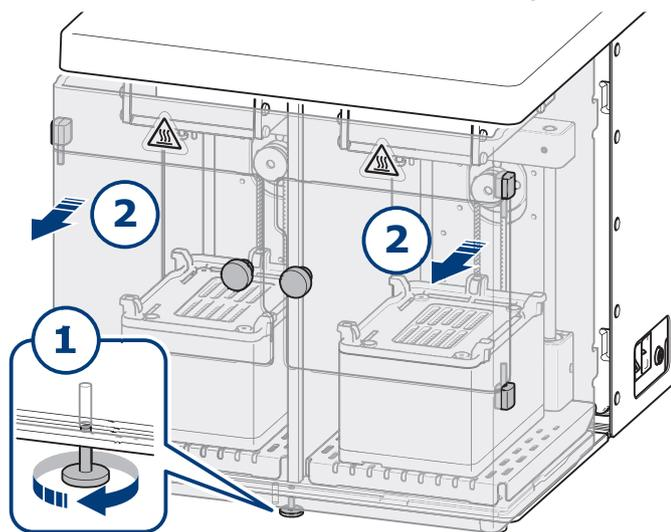

Figure 16. Remove the fume shield.
1. Remove the fume shield. Loosen the fume shield set screw, slide out the fume shield and remove it. See Figure 16.